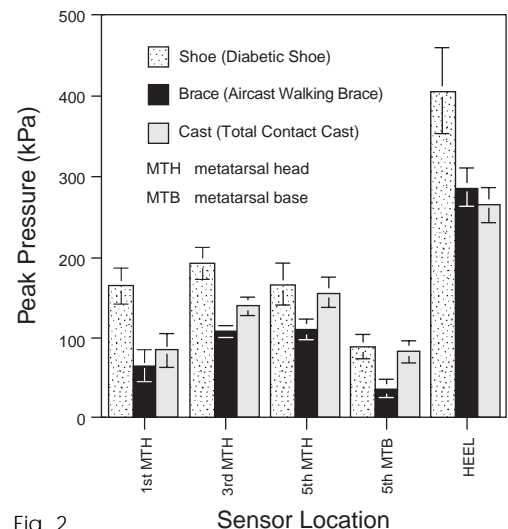

Fig. 2
- Rocker sole for reduction of plantar pressures (Fig. 2)
Aircast pioneered the use of the pneumatics in functional splints.4,5 The effectiveness of the PneumaticWalker in reducing plantar pressures has been documented in numerous studies. "The authors recorded the greatest average reduction in peak forefoot pressures with the Aircast [PneumaticWalker]".1 When unweighting of the plantar foot and equalization of plantar foot pressures were compared in a total contact cast and the Aircast PneumaticWalker, the results supported the recommendation to use the PneumaticWalker "as an alternative to total contact casting to unweight the foot in the treatment of neuropathic ulceration."2 (Fig. 2)